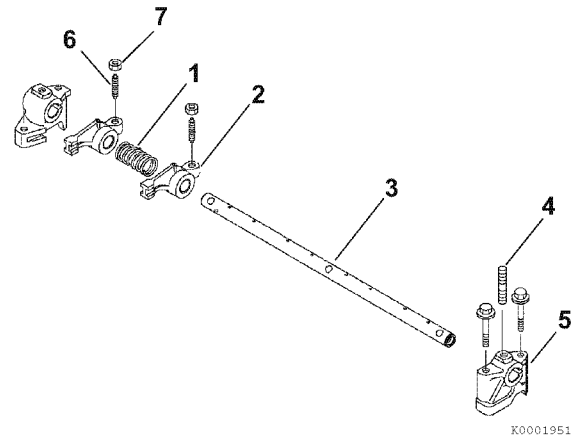

Figure 6-35
1. Lubricate the rocker arm shaft. Slide the rocker arm supports (**Figure 6-35, (5)**), springs (**Figure 6-35, (1)**) and rocker arms (**Figure 6-35, (2)**) onto the shaft.
- To properly align the rocker arm shaft with the rocker arm shaft supports, first reinstall a rocker arm support (**Figure 6-35, (5)**) having a hole for the shaft alignment stud (**Figure 6-35, (4)**). Align the hole in the rocker arm shaft and the hole in the rocker arm support. Reinstall the alignment stud.
Note: **Figure 6-35** shows components for one cylinder. Components for all remaining cylinders are assembled in the same order.
3. If removed, reinstall the valve adjusting screws (**Figure 6-35, (6)**) and the lock the nuts (**Figure 6-35, (7)**).